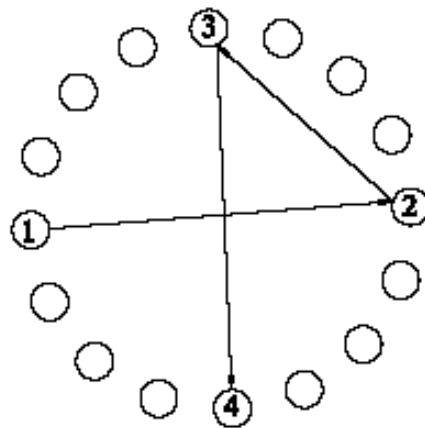

Fig.8. Initial tightening
- A2.1. Tighten the first four nuts in the sequence shown in Fig.8. This helps in correct location of the mating parts. Apply the torque in 2 stages as mentioned below.